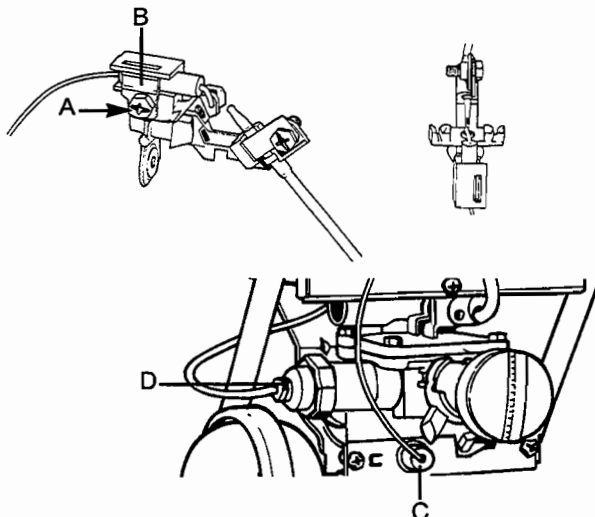

Fig. 15
- a) Disconnect thermocouple from thermoelectric valve (D) (see fig.15).